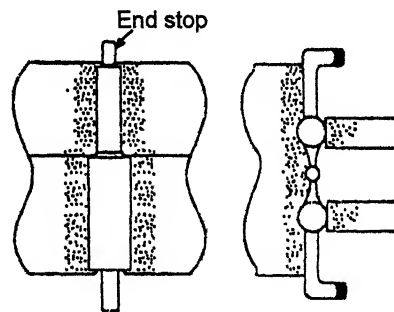

Fig. 11.5. The in-feed grinding.
2. **The in-feed grinding.** Refer to Fig. 11.5.